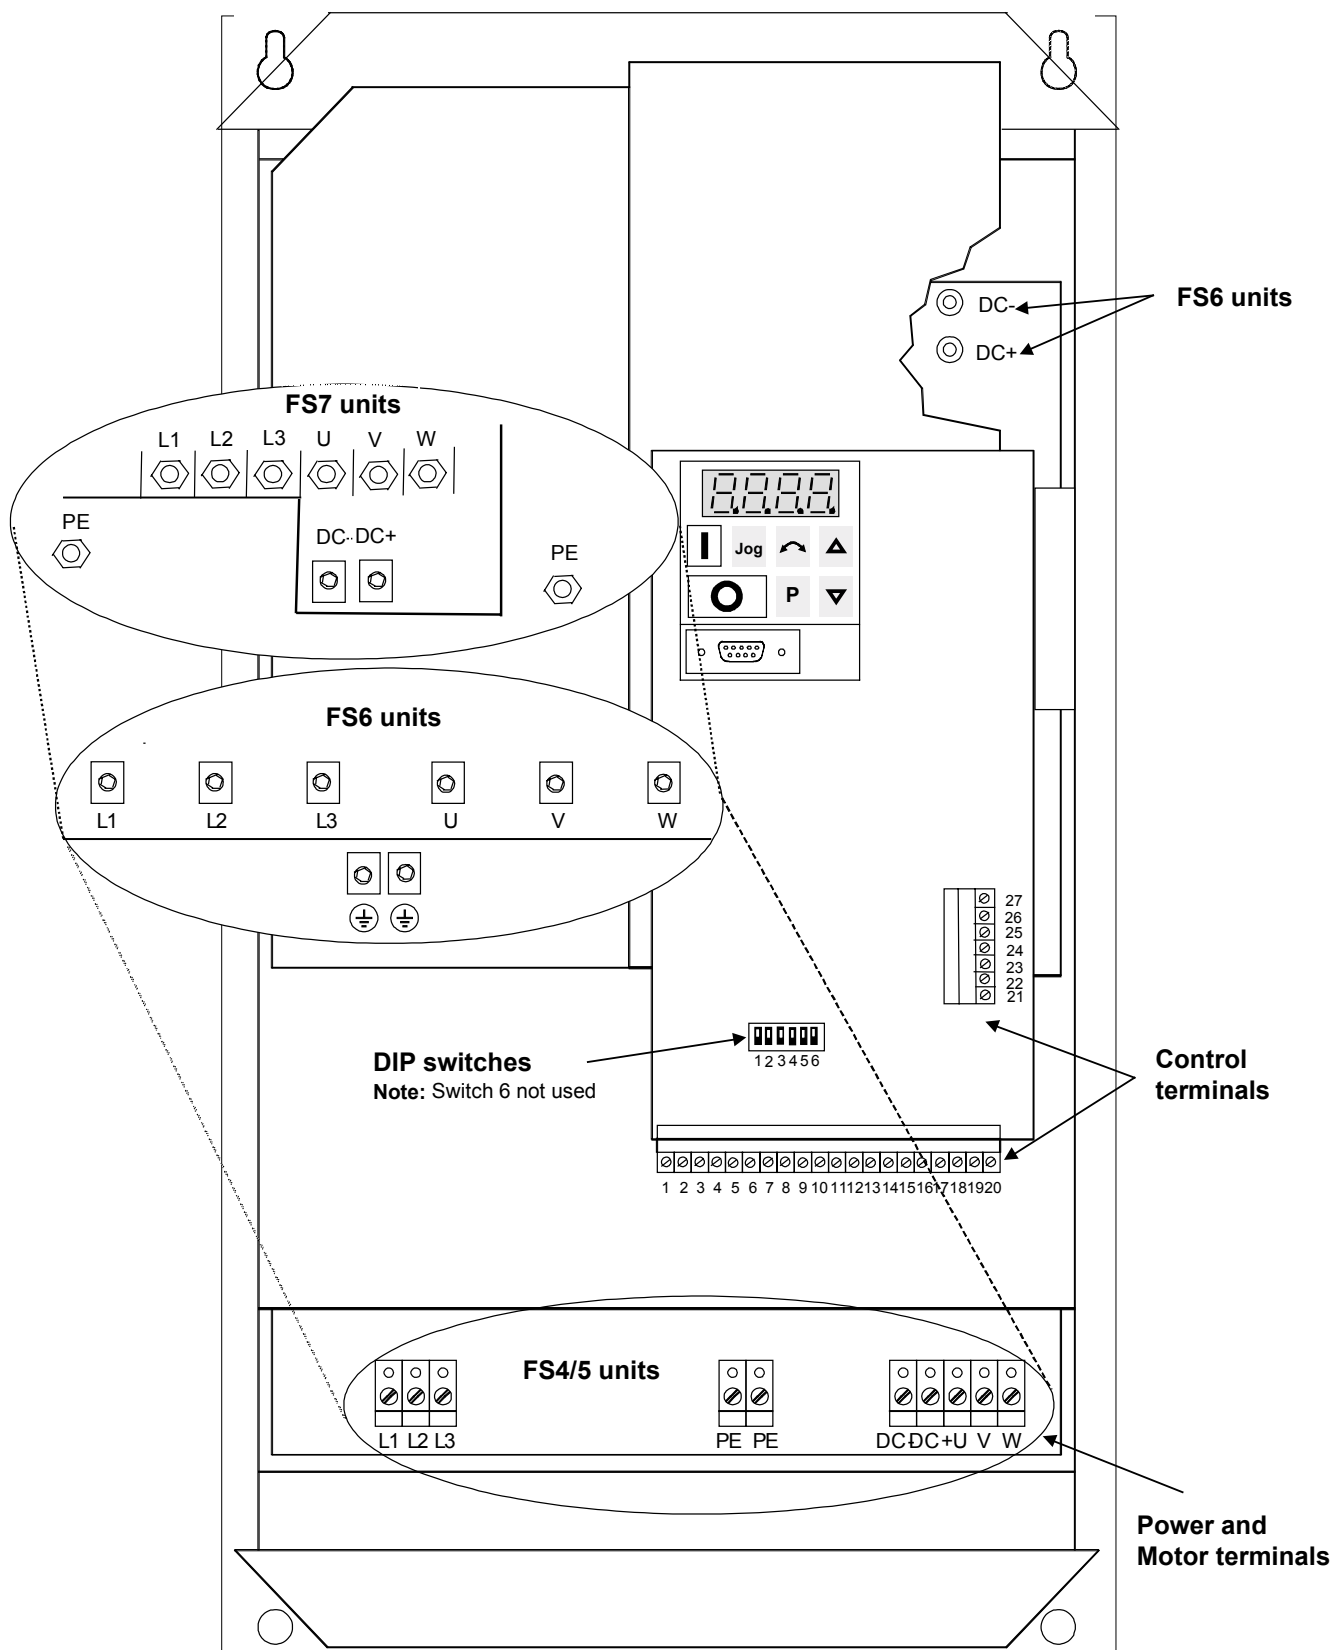

Figure 3.2.1: MIDIMASTER Vector Connectors
The electrical connectors on the MIDIMASTER Vector are shown in Figure 3.2.1.
2. Connect the power input to the power terminals L1, L2, L3 (3 phase) and earth (PE) (shown in Figure 3.2.1) using a 4-core cable and lugs to suit the cable size. For the cross-section of each core, see section 8.
3. Use a 4-core screened cable and suitable lugs to connect the motor leads to the motor terminals U, V, W and earth (PE) (shown in Figure 3.2.1).
Control connections to the MIDIMASTER Vector are made via two terminal blocks located as shown in Figure 3.2.1. The terminal blocks are of a two-part design. The part containing the screw terminals can be unplugged from it's housing before wires are connected. When all connections to the terminals have been made (as shown in Figures 3.2.1 and 3.2.2) and secured, the terminal block must be plugged firmly back into its housing.
- for Frame size 4, 5 and 6 the front cover is removed (see Figure 3.2.1).
- for Frame size 7 the lower front cover is removed (see Figure 3.2.1).